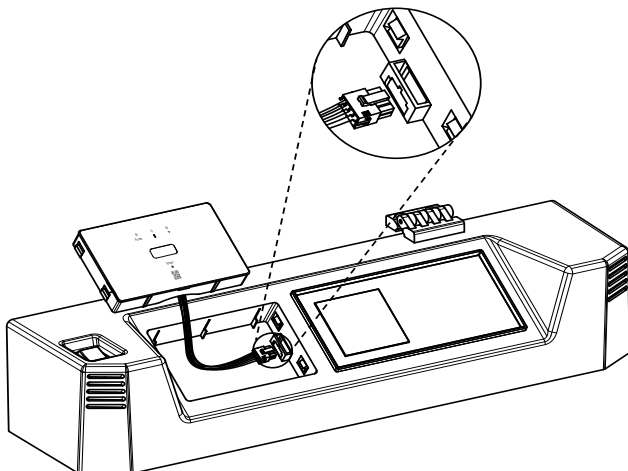

Fig. 13: 8-way harness
1. Connect to wire harness to the new HMI as shown in Figure 13.